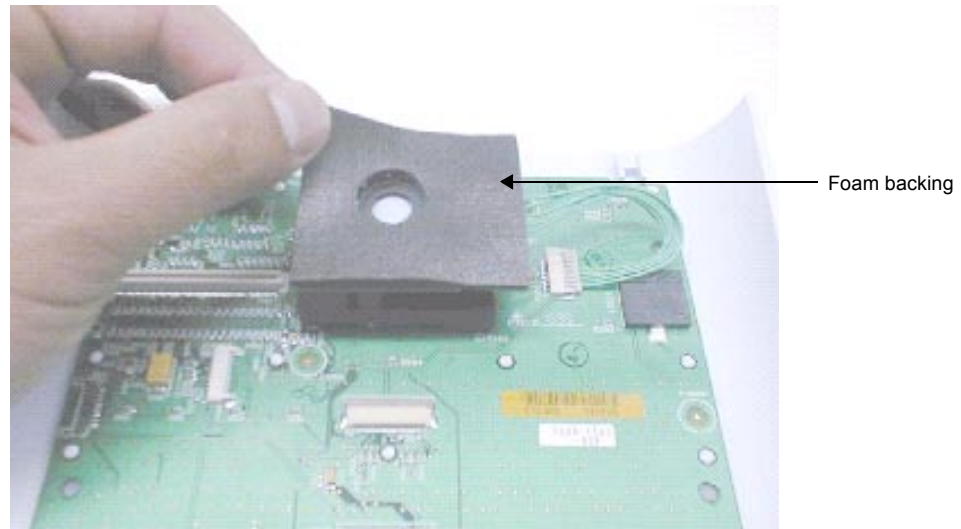

Figure 7.14 Placing the Foam Backing
- 5 Place the foam backing on the Trackball (Figure 7.14).